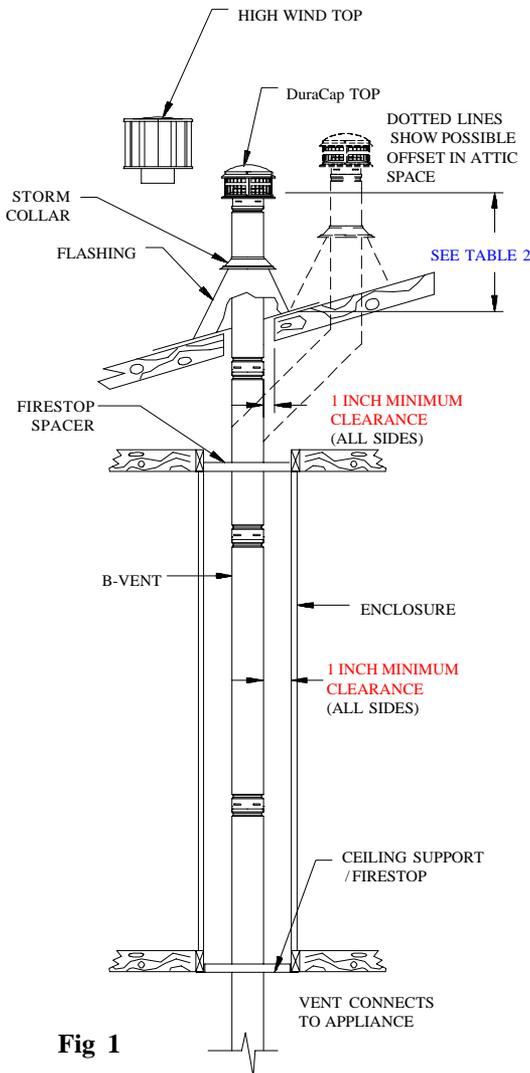
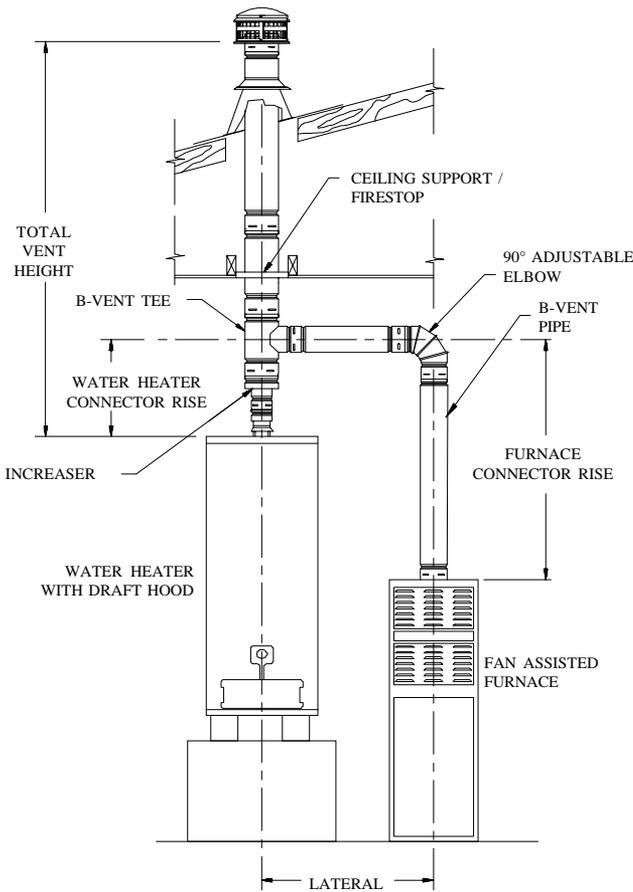
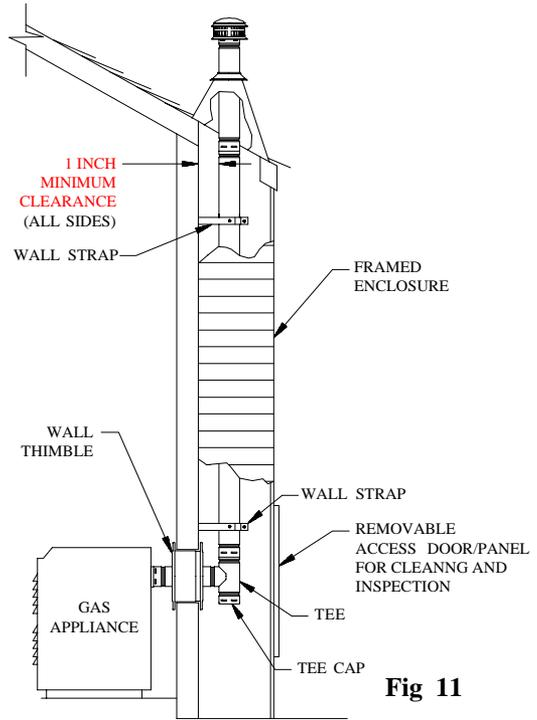

Fig 1
Fig 2
Fig 11
3. Figures 1, 2, & 3 show examples of some typical residential installations.
8. **Tees and Wyes.** **Tees** and **Wyes** are used to combine connectors from 2 or more appliances into a common vent as shown in Figures 2 and 3. A **Tee** should be used in a through-the-wall application, (Figure 11), as they have a removable **Tee Cap** (available as a separate item) attached to the bottom. This **Tee Cap** may be removed in order to inspect the system, or to clean out debris or collected condensate from the common vent. **Wall Straps** should be positioned every four feet to support the vertical common vent.
burns. Figure 1 (page 2) shows a system which passes through an occupied second floor. Simpson Dura-Vent does not recommend installation of B-Vent Pipe on the outside wall of a building, particularly in cold climates. If it is necessary to do this, enclose the outside portion of the system in a chase, as shown in Figure 11. It would be wise to consult the Local Authority prior to construction. Note that the enclosure requires an access door for inspection and maintenance purposes.